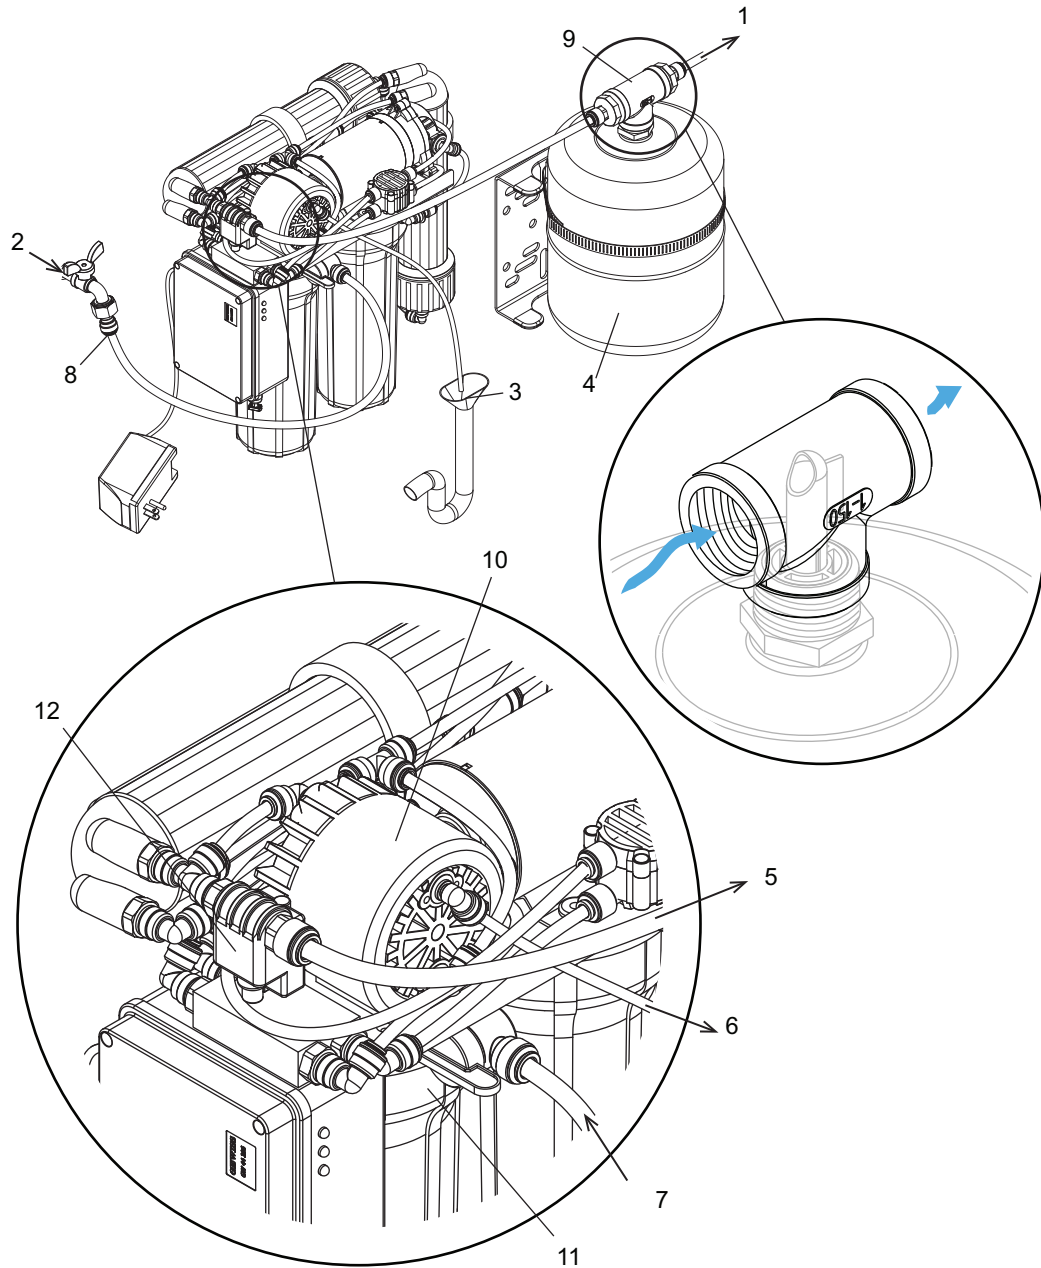

Figure 7 - Supply Water Connection
6. Connect the T-piece connector to the inlet valve on the buffer tank. Ensure that the orientation of the T-piece connector allows water to flow through in one direction only. Water from the RO unit should face the opening of the plastic attachment in the T-piece connector. Refer to Figure 7 - on the next page.
1. Fit a tube, 1/4 in minimum, from the discharge port to the air gap funnel (recommended) leading to the drain. Refer to Figure 7 - on the previous page.